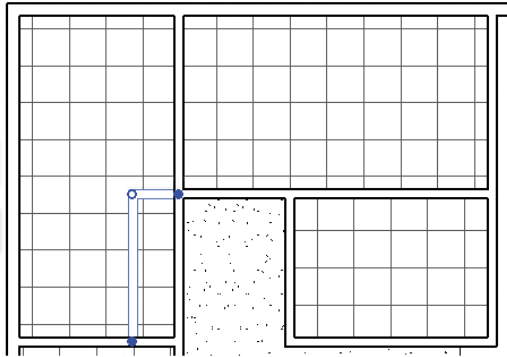

FIGURE 3.34 Creating a bulkhead
1. Place the walls that will act as the bulkhead, as shown in Figure 3.34. Be sure to set the Base Offset value in the Properties palette of the walls to 7'-9" (2400 mm) and the Unconnected Height value to 2'-3" (700 mm). This creates two walls above head height.